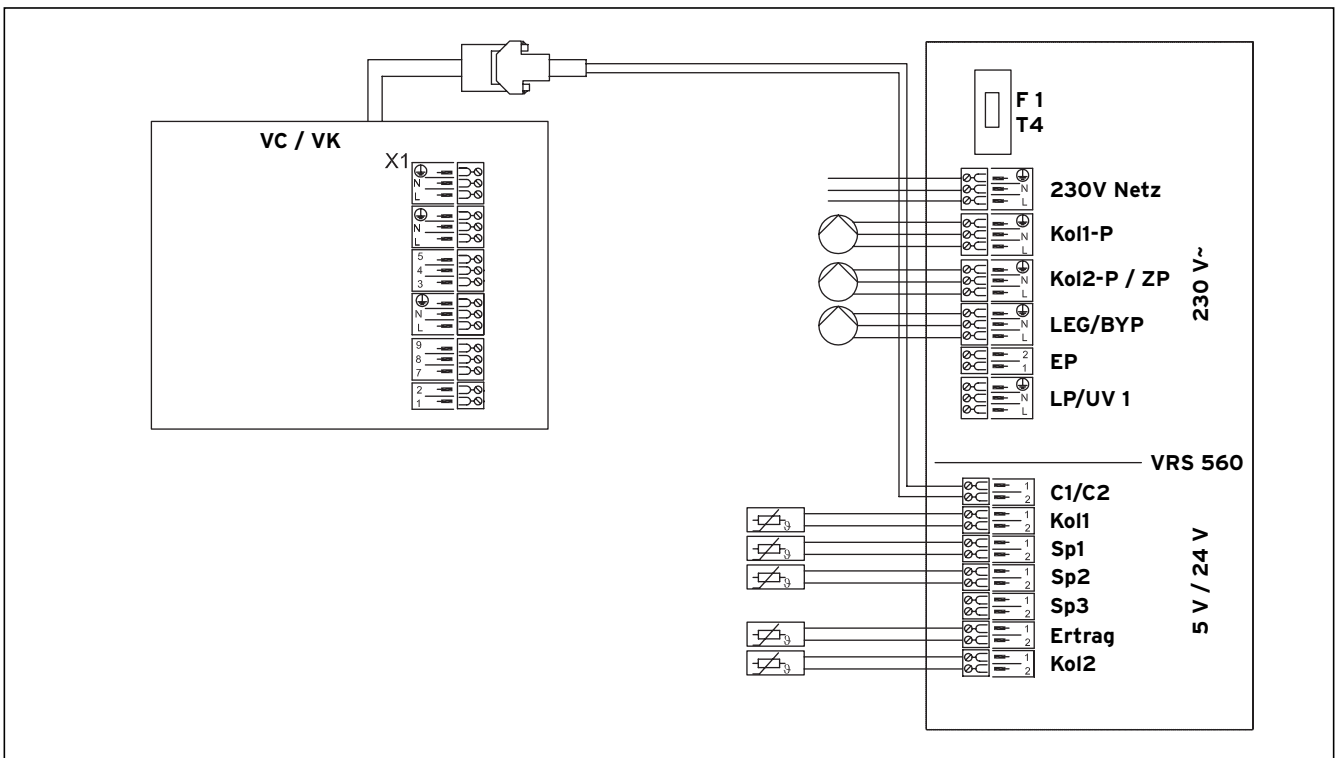

Fig. 5.12 Wiring diagram for hydraulic plan 3
**Table 5.7 Key for Fig. 5.11 and Fig. 5.12**
**Table 5.7 Legend for Fig. 5.11 and Fig. 5.12 (continued)**